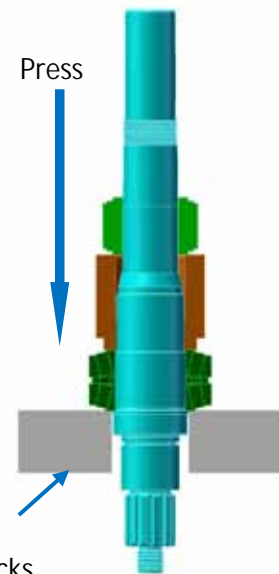

Figure 54 – Removing Bearings from Shaft
15. You will need to use a hydraulic press and V-blocks to remove the bearings and spacer, Figure 54. Protect the shafts when they fall with V-Blocks wood or plastic blocks placed beneath them.